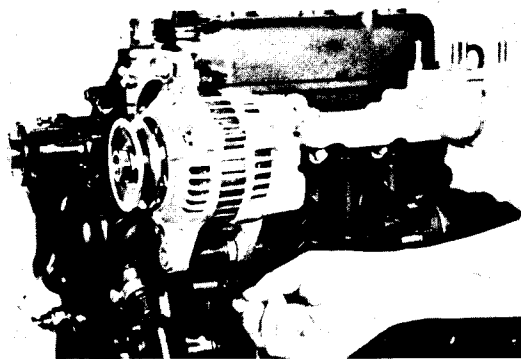

Figure 26
6. Reverse steps 1 - 5 to install the alternator. Make sure the spacer and shim is installed on the alternator support bolt between the alternator lower rear bracket and gear case bracket (Fig. 26).